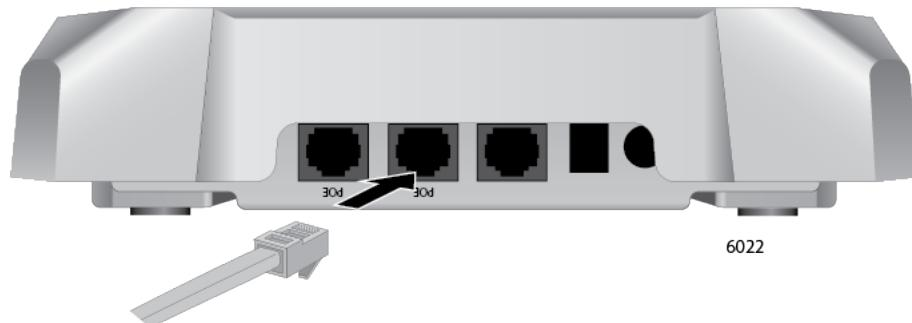

Figure 22. Connecting an Ethernet Cable to the LAN1 Port
1. To cable LAN1 port, connect an Ethernet cable into the port. The cable requirements are in “Cable Requirements” on page 31. Refer to Figure 22.